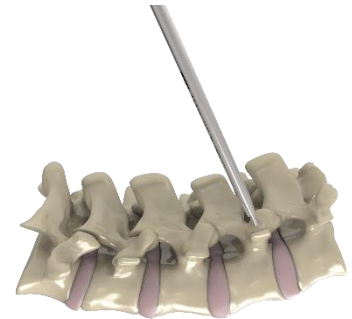

Figure 1
- a. Locate the desired entry point in the pedicle and perforate the cortex with the Awl (39-SP-0001) (Figure 1).